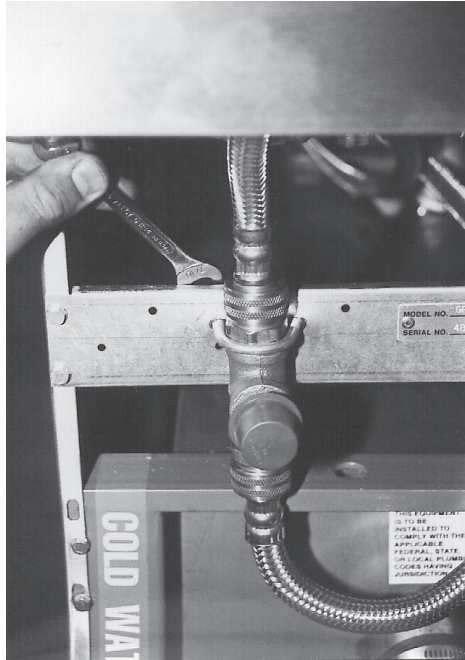

Fig. 77
2. From the rinse station with a $\frac{7}{16}$ " wrench, disconnect the "U" bolt bracket from the hot and cold water fitting assemblies. (Fig. 77)